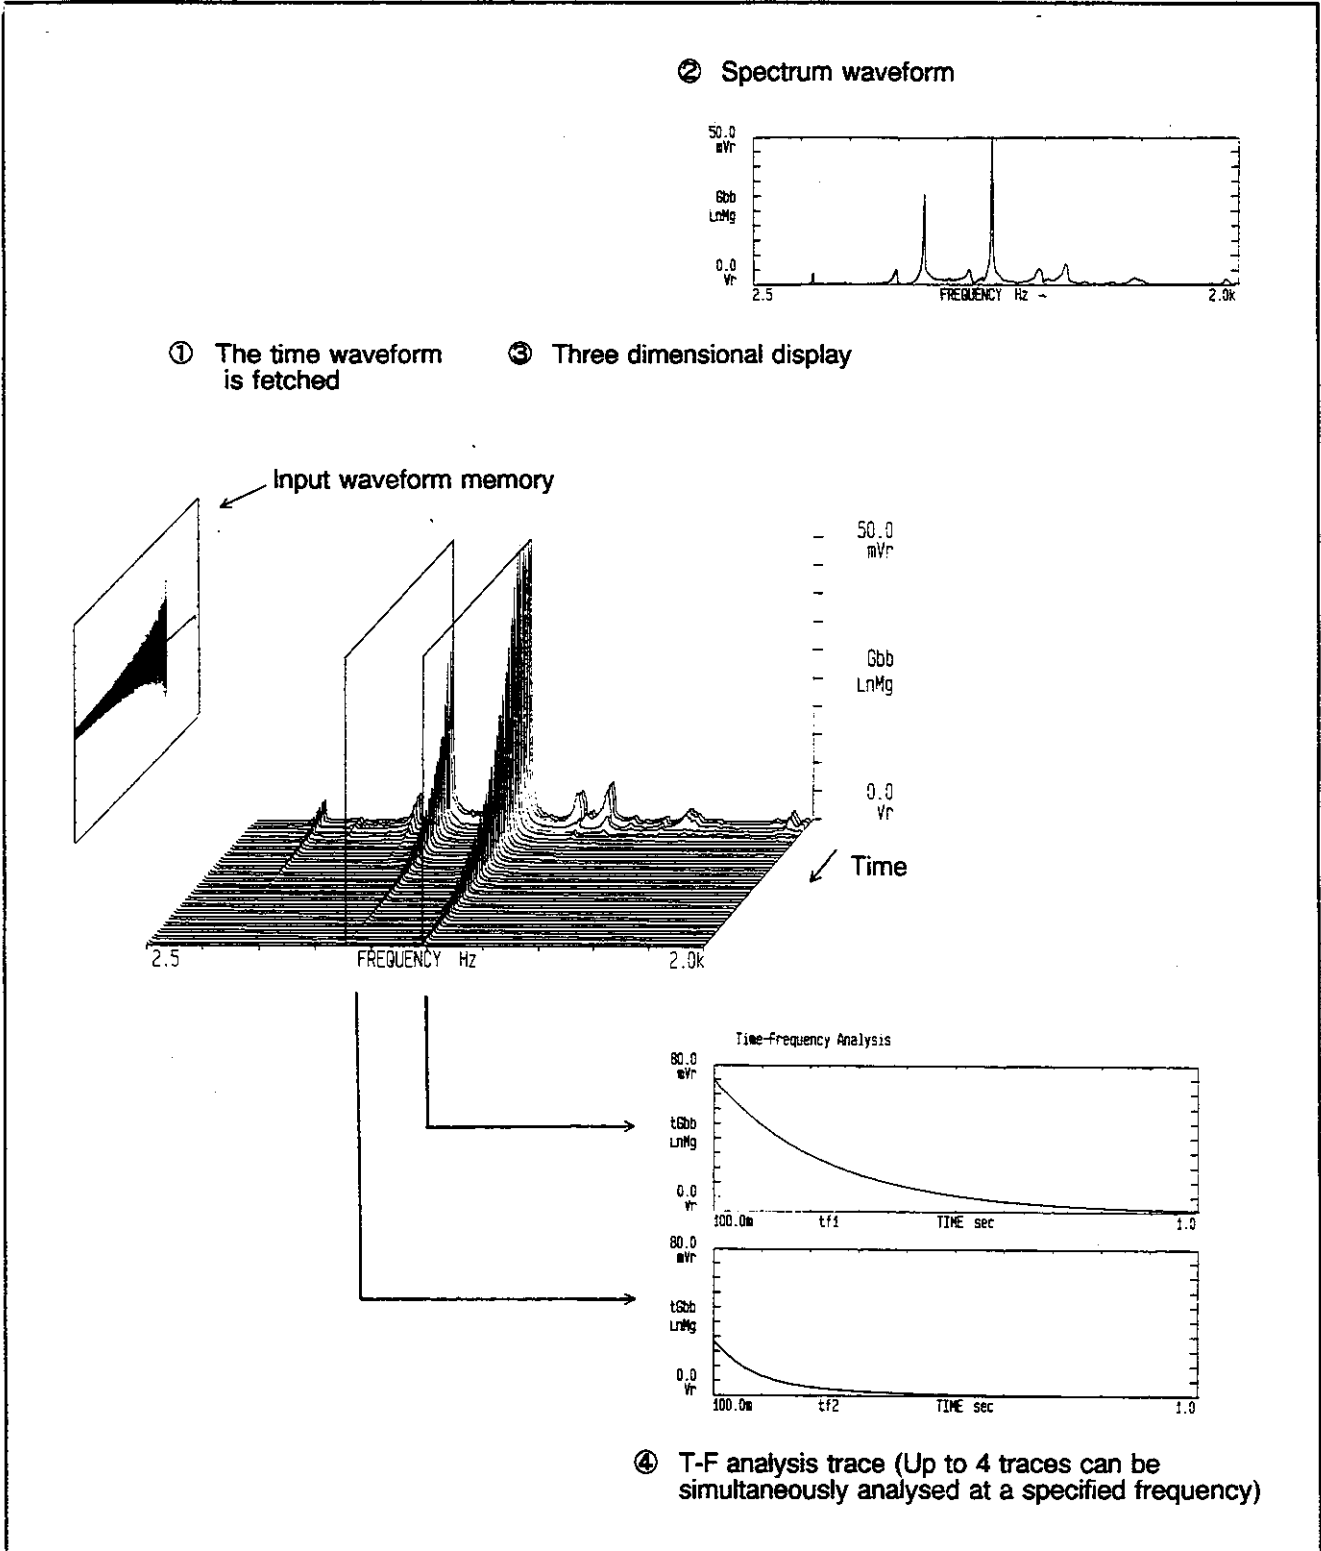

Figure 2-6 Concept of Measurement in the Time-frequency Analysis Mode
In the TF mode, a transient signal is recorded in the input waveform memory by using a trigger signal. ( ① in Figure 2-6)
- (1) One can observe the instantaneous spectrum of any portion chosen from the recorded waveform. ( ② in Figure 2-6)
- (2) Spectra can be displayed in three dimensions depending on the recorded waveforms. ( ③ in Figure 2-6)
- (3) The relationship between a specified frequency and time can be analyzed to obtain a transient signal damping characteristic (T-F analysis). ( ④ in Figure 2-6)